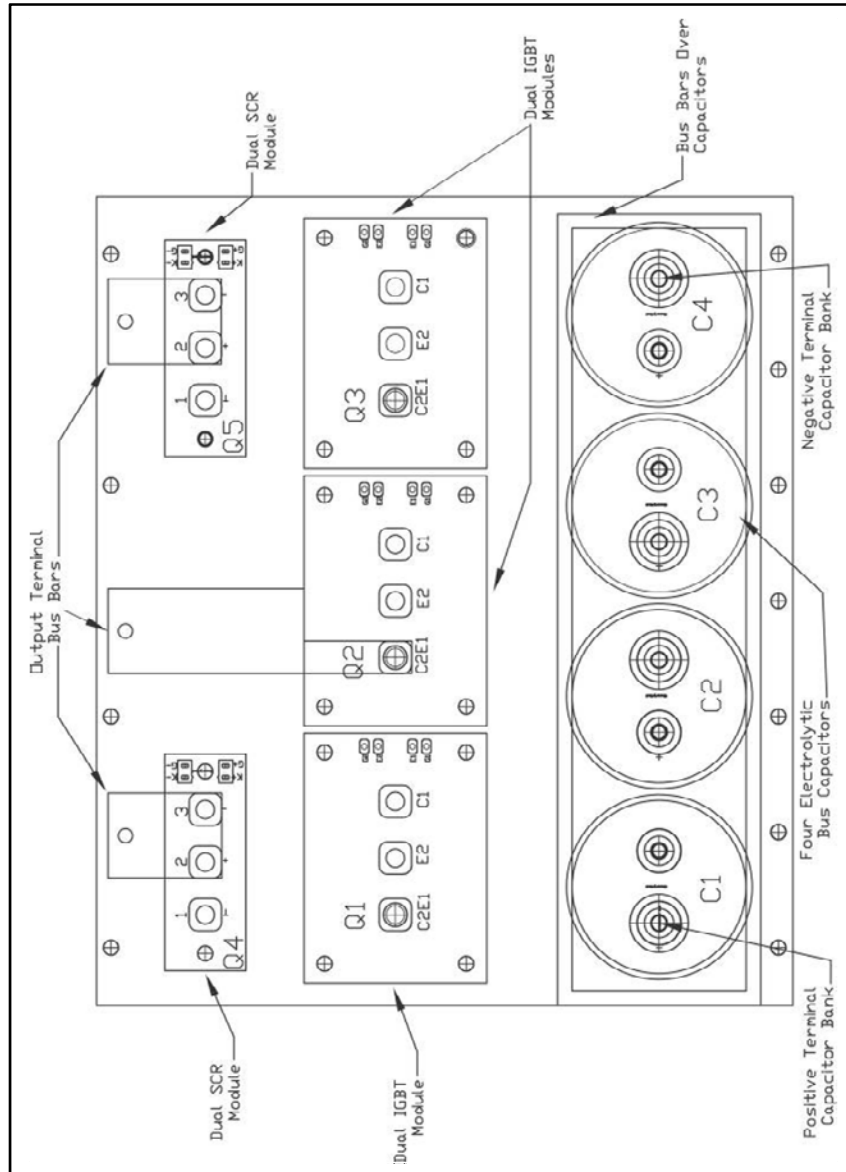

Figure 5.2: (600V) 39, 78, 150 Amp & (480V) 45, 90, 100, 150, 200 Amp Power Component Layout
- Measure resistance of power semiconductors using a multi-meter set on the diode check setting, see **Figure 5.2**. Look for opens, ∞ , or dead short readings. With the red lead of your meter connected to the far right negative terminal of the capacitor bank, measure with the black lead of the meter to each of the three output terminals (bus bars), the reading should be approximately 0.35Ω . Reverse the meter leads and repeat measuring to each terminal. This time a low reading will be present which will continue to increase; this is an indication of a capacitor charging. Next connect the black meter lead to the “positive capacitor terminal” and again measure to each of the output terminals with the other lead; the reading should be approximately 0.35Ω . Reverse the meter leads and repeat measuring to each terminal. Again it will be a low reading which will continue to increase. If the readings are as described, in all likelihood the power semiconductors are good. If any readings are opens or dead shorts it will be an indication that something is bad in the power section. Do not reapply power if you are not sure the IGBT’s are good.